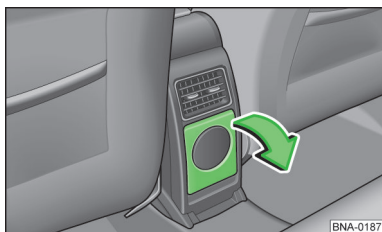

Fig. 42
- > To *open*, fold down the cup holders in the direction of the arrow » fig. 42.